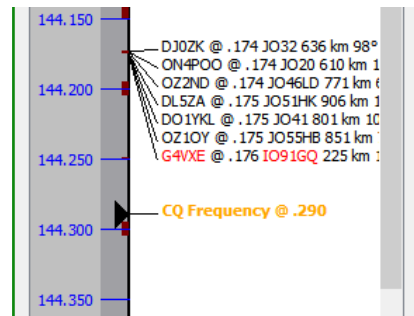

Figure 118 – Run frequency marker
- If operating in Run mode, the current Run frequency is marked on the display¹³² as ‘CQ Frequency’, with the fractional frequency appended (see Figure 118); the marker changes colour if the rig moves off the run frequency.